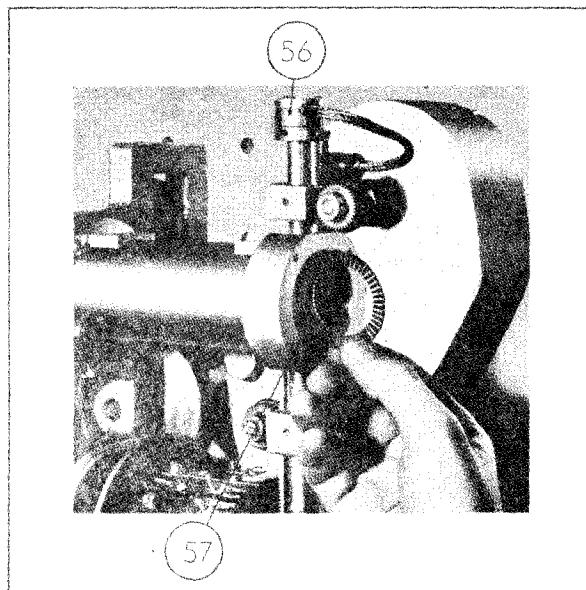

Figure 4-42. Positioning of Inner Grid Contact Ring
Figure 4-42 shows the monitor pick-up (56) inserted into the RF probe holder. The pick-up should be inserted until the collar on the pick-up seats against the collar on the rack. The set screws in the latter should then be tightened.
Figure 4-42 also shows the manner in which the inner resonator grid contact ring (57) is inserted. The ends of the fingers on the contact ring should point out of the cavity. The ring should be seated against the flange about 3/8 inch from the end of the cavity.